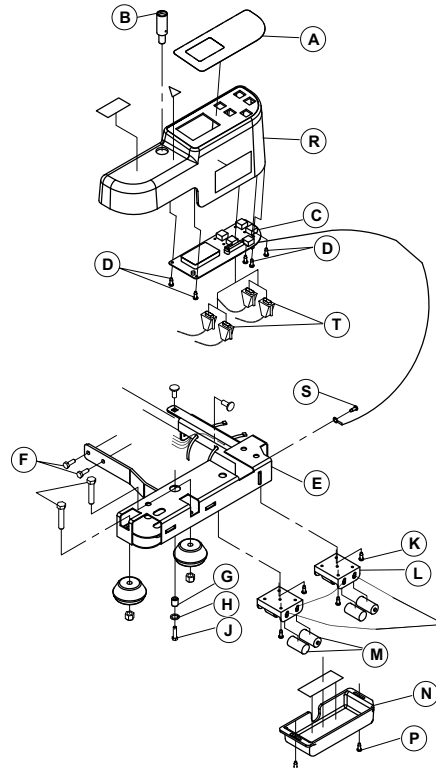

Figure 15 – Scale membrane replacement
1. Slide a small slotted screwdriver under the membrane (A) and lift to remove (Figure 15). Use caution when you insert the screwdriver under the membrane to avoid scratching the plastic cover.
5. Using a 9/16" combination wrench, remove the bolt (J), washer (H), and spacer (G) that secure the fixed top socket (B) to the accessory bracket (Figure 15). Save the bolt, washer, and spacer.
9. Using a #2 Phillips screwdriver, remove the five screws (D) that secure the control board (C) to the cover (Figure 15). Remove and save the control board. Save the screws. Discard the cover.
7. Using diagonal pliers, cut the cable ties that secure the cable to the lower plate and the accessory bracket (E) (Figure 15).
9. Using a small slotted screwdriver, remove the load cell cable connectors (T) from the control board (Figure 15).
12. Using a #2 Phillips screwdriver, remove the five screws (D) that secure the control board (C) to the accessory bracket cover (Figure 15). Remove and discard the control board. Save the screws.